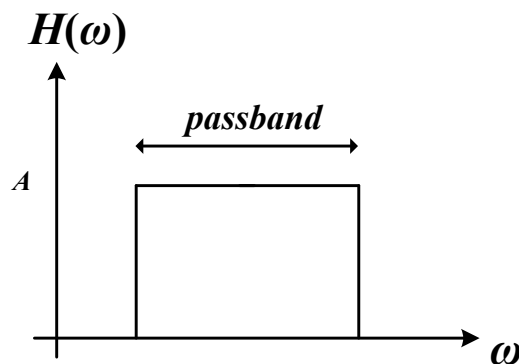

Fig. 1
An ideal frequency-selective filter is a system that passes a pre-specified range of frequency components without any attenuation but completely rejects the remaining frequency components. The range of input frequencies that is left unaffected by the filter is referred to as the pass band of the filter, while the range of input frequencies that are blocked from the output is referred to as the stop band of the filter. Fig. 1 shows an ideal frequency-selective filter, where A is the magnitude of the filter.
The magnitude of the transfer function of the frequency filter, changes between A and zero as a function of ω . The magnitude of the filter $|H(\omega)|$, which is A in Fig. 1, is typically set to one within the pass band, while $|H(\omega)|$ is zero within the stop band. Depending upon the range of frequencies within pass and stop bands, an ideal frequency-selective filter is categorized in four different categories: (1) low-pass, (2) high-pass, (3) band-pass, and (4) band-stop. In this lab, you will build several analog filter circuits, classify them and investigate their time-domain output responses and their frequency response characteristics.